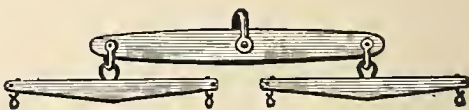

Fig. 482.
*The Two-Horse Whiffletrees*, shown at *Fig. 482*, are made in four styles or weights; viz.: light, for small horses or mules; heavy, and extra heavy, for ordinary work; and special, for the heaviest contract work.